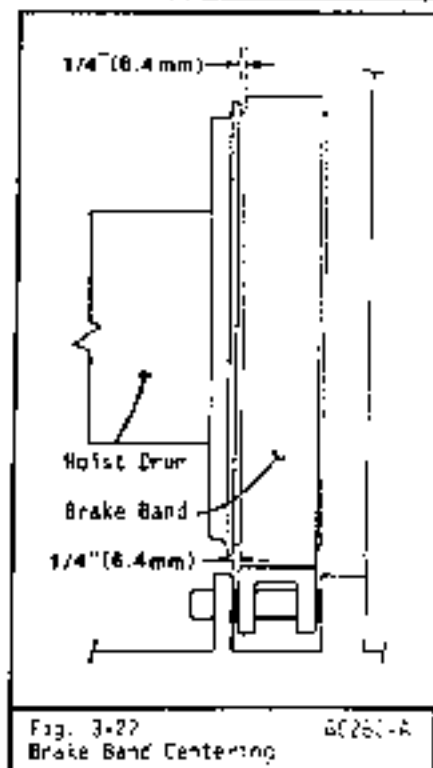

Fig. 3-22
- (b) The brake band must be centered with the brake drum. See Fig. 3-22. The band is centered with the brake drum by shimming between the dead end lugs and the dead end mounting bracket on the frame. Allow 1/4" (6mm) clearance between brake band and flange on brake drum.
### Drum Brake Pedal Switch Adjust- ment (Fig. 3-22)